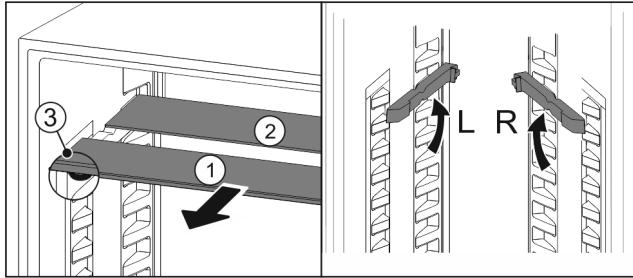

Fig. 78
- ▶ Pull the glass panels out Fig. 78 (1) from the front, one at a time.
- ▷ The glass panel Fig. 78 (1) and trim strip are at the front.
- ▷ The stops Fig. 78 (3) point down.